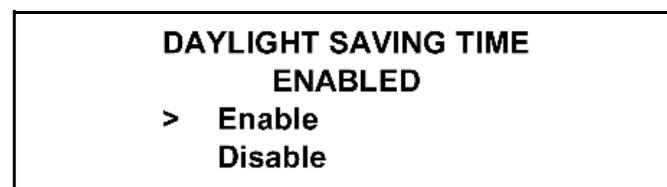

Figure 2-42
8. Select the Calibration key  to advance to the DAYLIGHT SAVING TIME screen. (See Figure 2-42.)